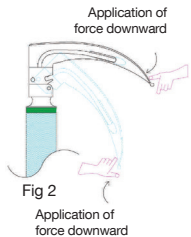

Fig 2
3. To bring the blade in stand by position apply force downward as in fig 2.
Laryngoscope blades and handle should always be tested after cleaning / disinfection / sterilization and prior to use. To test, connect the laryngoscope blade to handle and pull it to the ON position as in fig 2 if the unit fails to light or flickers, check the lamp / batteries and the electrical contacts. Be sure adequate supplies of spare lamps, batteries, and replacement parts are readily available. If problem still persists, contact supplier.